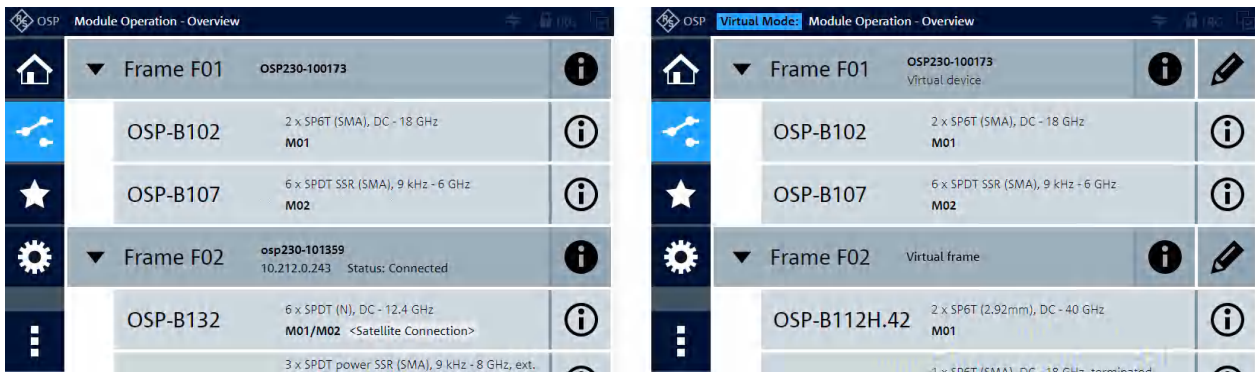

Figure 5-7: The module operation dialog (right: in Virtual Mode, which also allows editing)
- The list view of the "Module Operation" dialog (Figure 5-7) provides the following functions:
Starting from the "Module Operation" dialog in **list view** as in Figure 5-7, click a module's entry to operate this module in its individual **interaction dialog** (detail view).